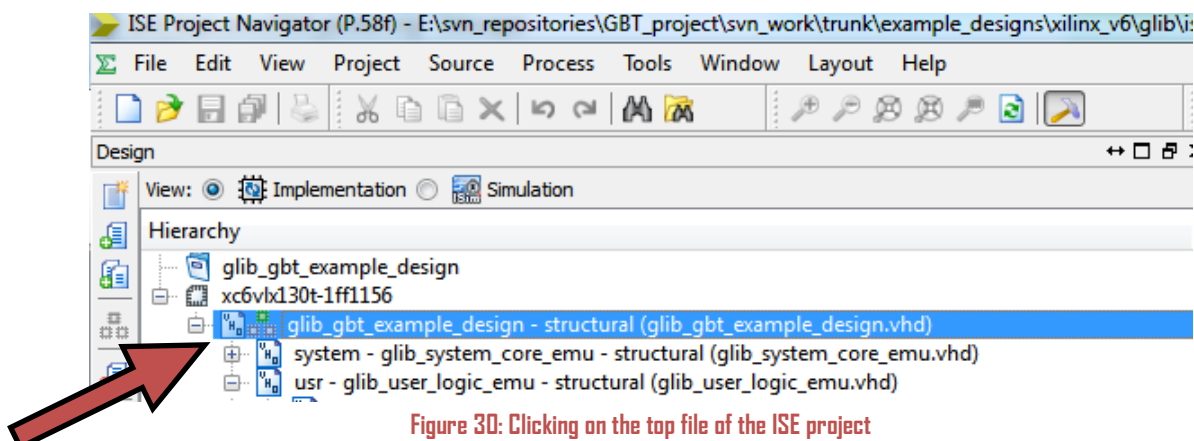
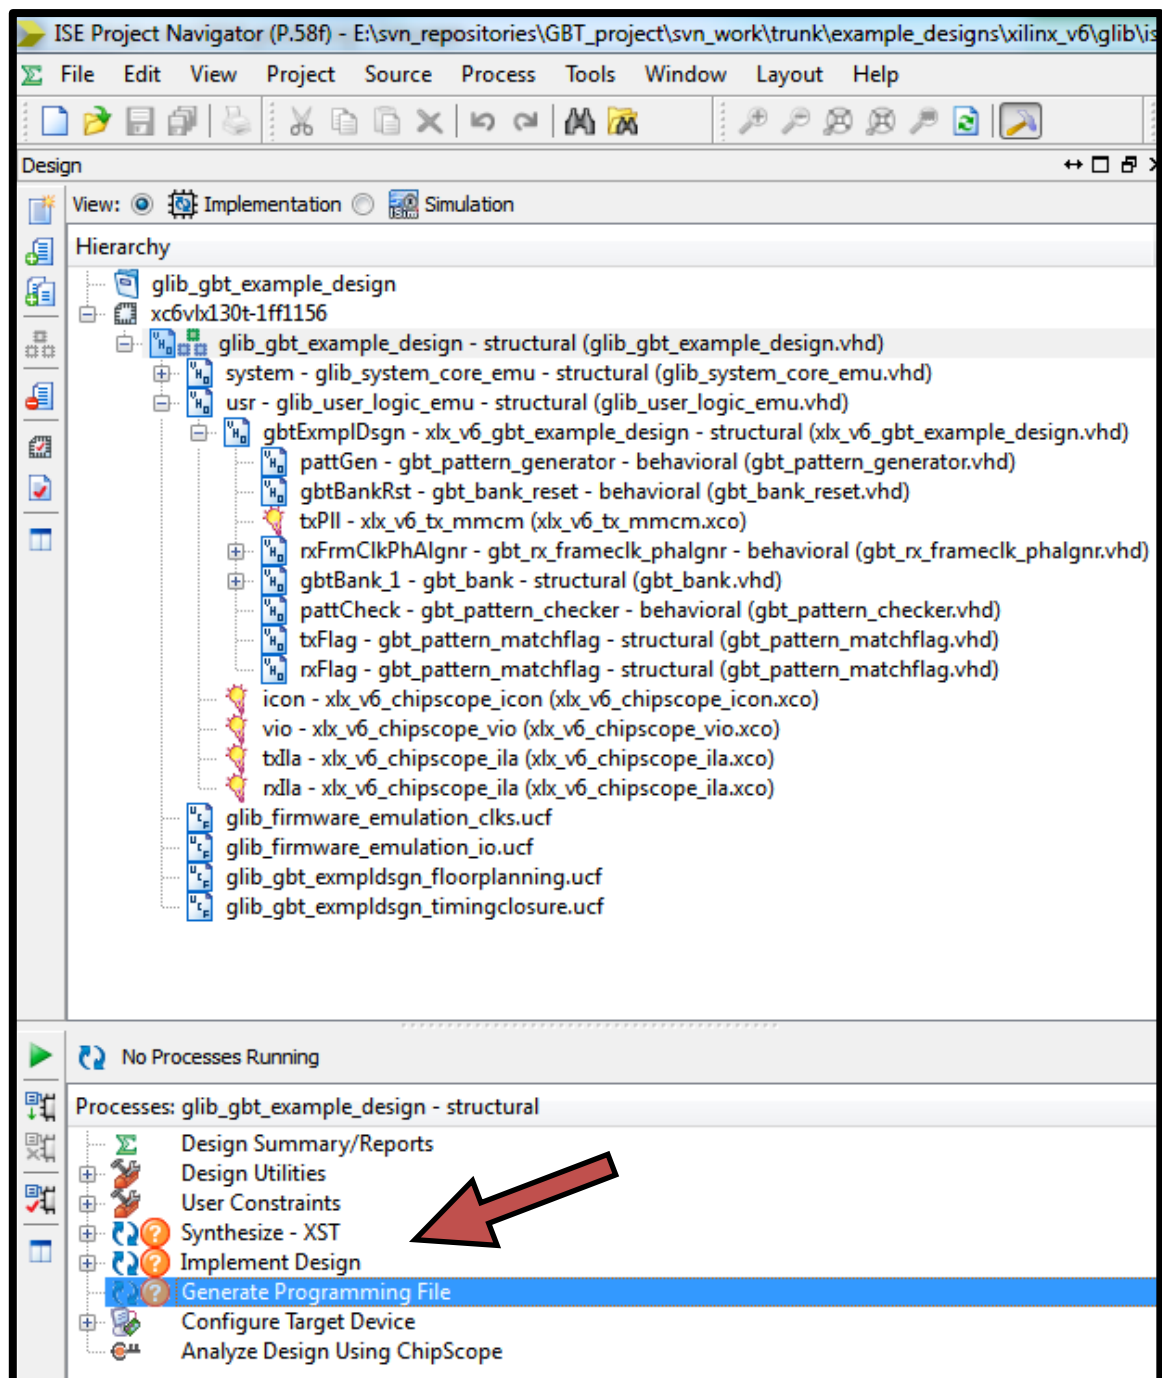

Figure 30: Clicking on the top file of the ISE project
Figure 31: "Synthesize", "Implement Design" and "Generate Programming File"
13. Click on the name of the top level file of the ISE project so the "Synthesize", "Implement Design" and "Generate Program File" processes appear in the "Processes" pane of the "Design" window (see Figure 30 and Figure 31).